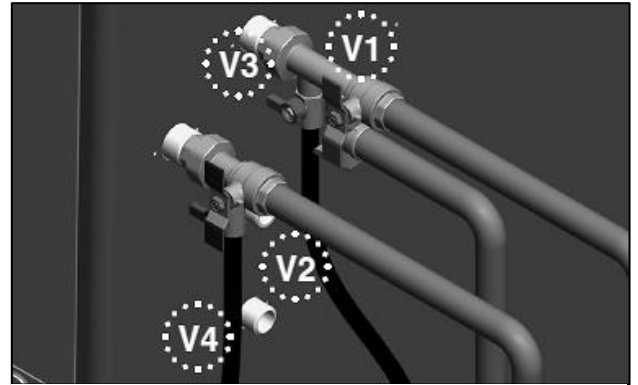

Figure 46 – Valve Detail
2. Close the shutoff valves on both hot water outlet and cold water inlet lines (V1 and V2). See Figure 46.